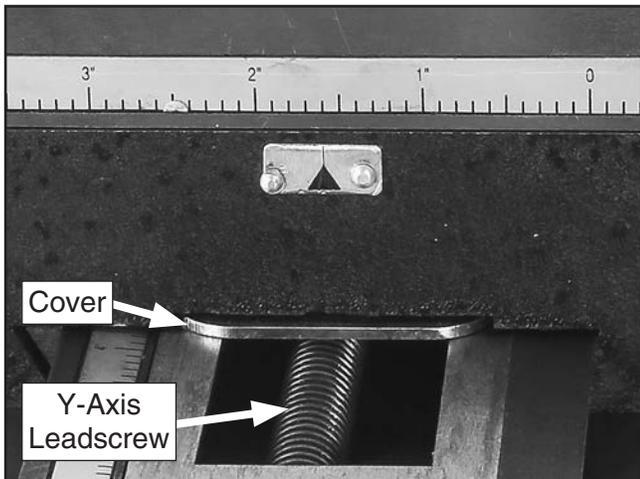

Figure 35. Y-axis leadscrew exposed for cleaning and lubrication.
2. Push cover under cross slide to expose Y-axis leadscrew (see **Figure 35**).